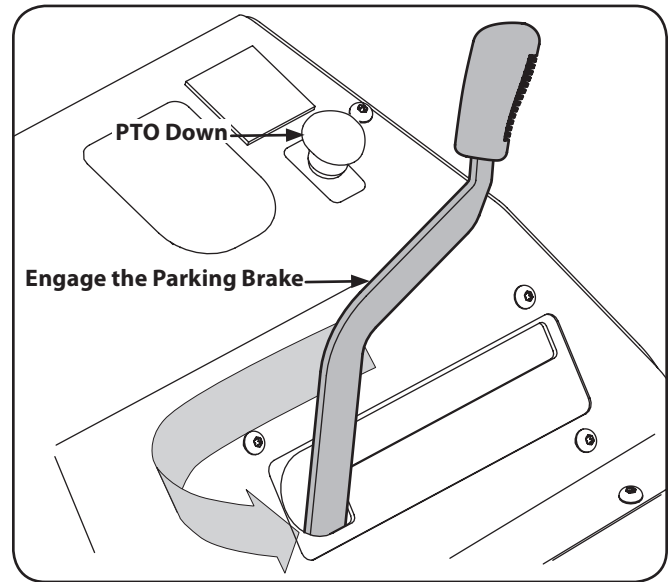

Figure 5-2
2. Engage the parking brake. Refer to Figure 5-2.
3. Make certain the PTO switch is in the disengaged (down) position. Refer to Figure 5-2.